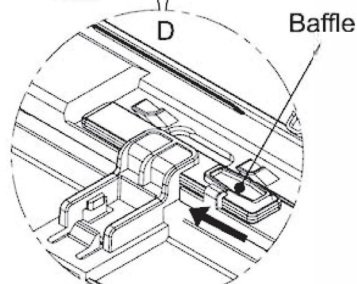

Fig.C.7.5
- 4) In the C position, open the front shell as shown in Fig. C. 7.4 . Then in the D position, push the baffles to prevent the front shell from falling as shown in Fig. C. 7.5.